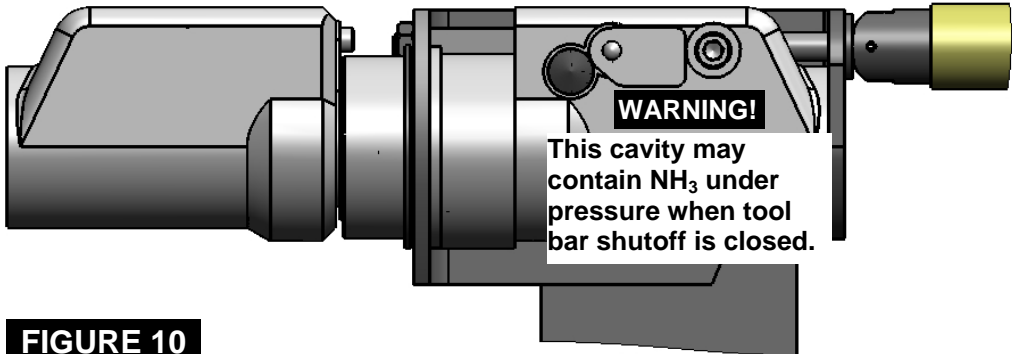

FIGURE 10
3. Screw the handle in until it makes contact with the rear of the coupler, as shown in figure 10.